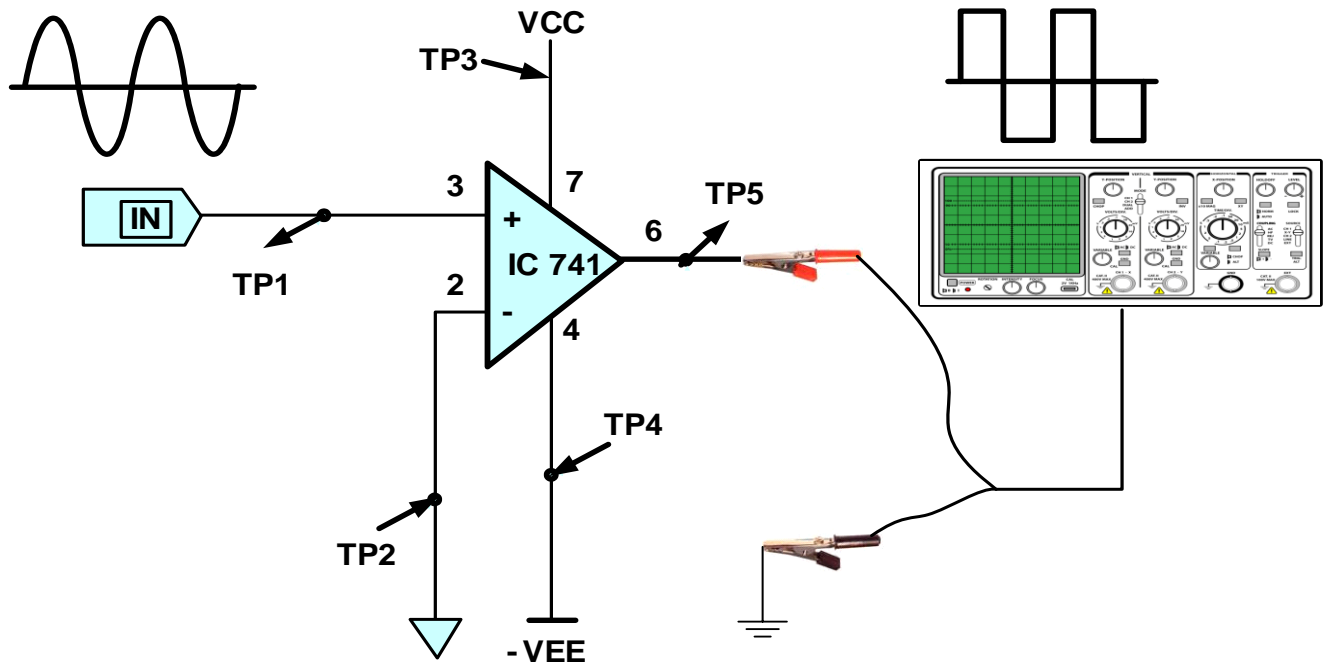

Figure 1.9
1. Some test points are included in Figure 1.9